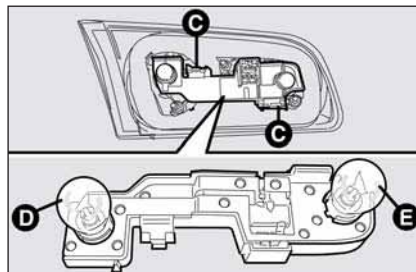

fig. 31
- push the bulb holder side tabs **C-fig. 31** inwards to remove it;
The bulbs are arranged inside the light unit as follows (**fig. 31**):